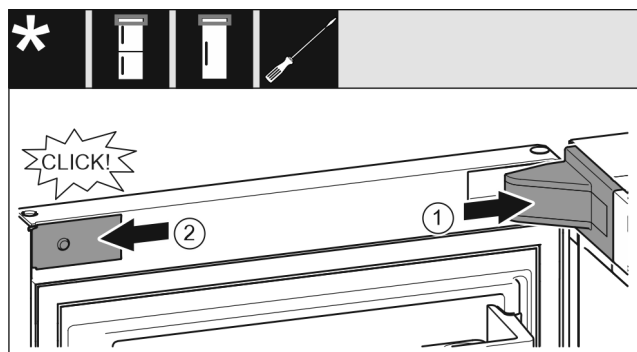

Fig. 25
- Put the swap bearing block cover Fig. 25 (1) on and engage, push apart carefully if required.
- Place the trim Fig. 25 (2) on the side and engage.